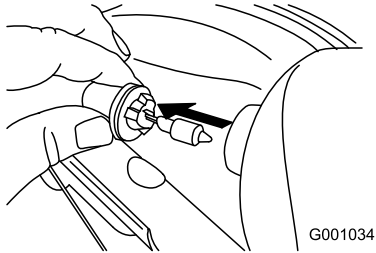

Figure 52
3. Remove the bulb straight out from the back of the headlight (Figure 52).